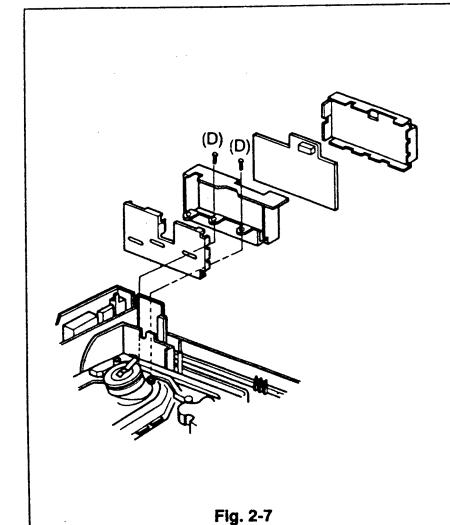

Fig. 2-7
- Release 2 screw (D)(See Fig. 2-7).